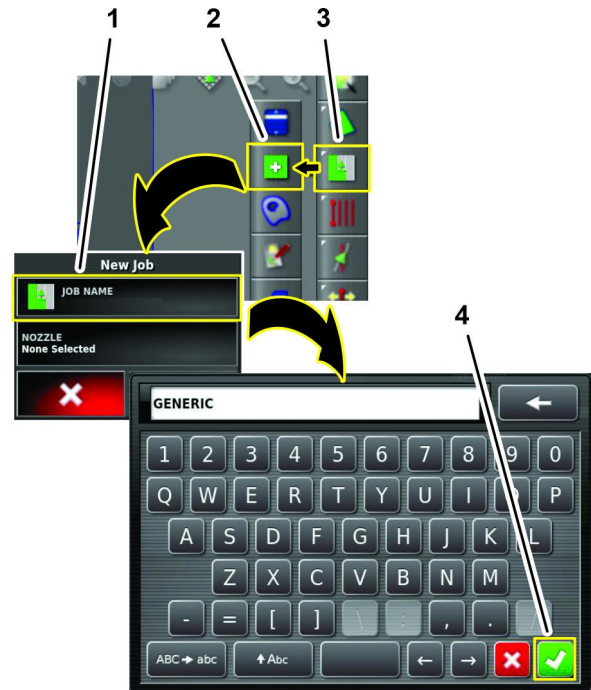

Figure 118
1. Press the Job Menu and press the CREATE NEW JOB icon (Figure 118).
2. Use on-screen keyboard to type a name for the generic job, and press the confirm icon (Figure 118).